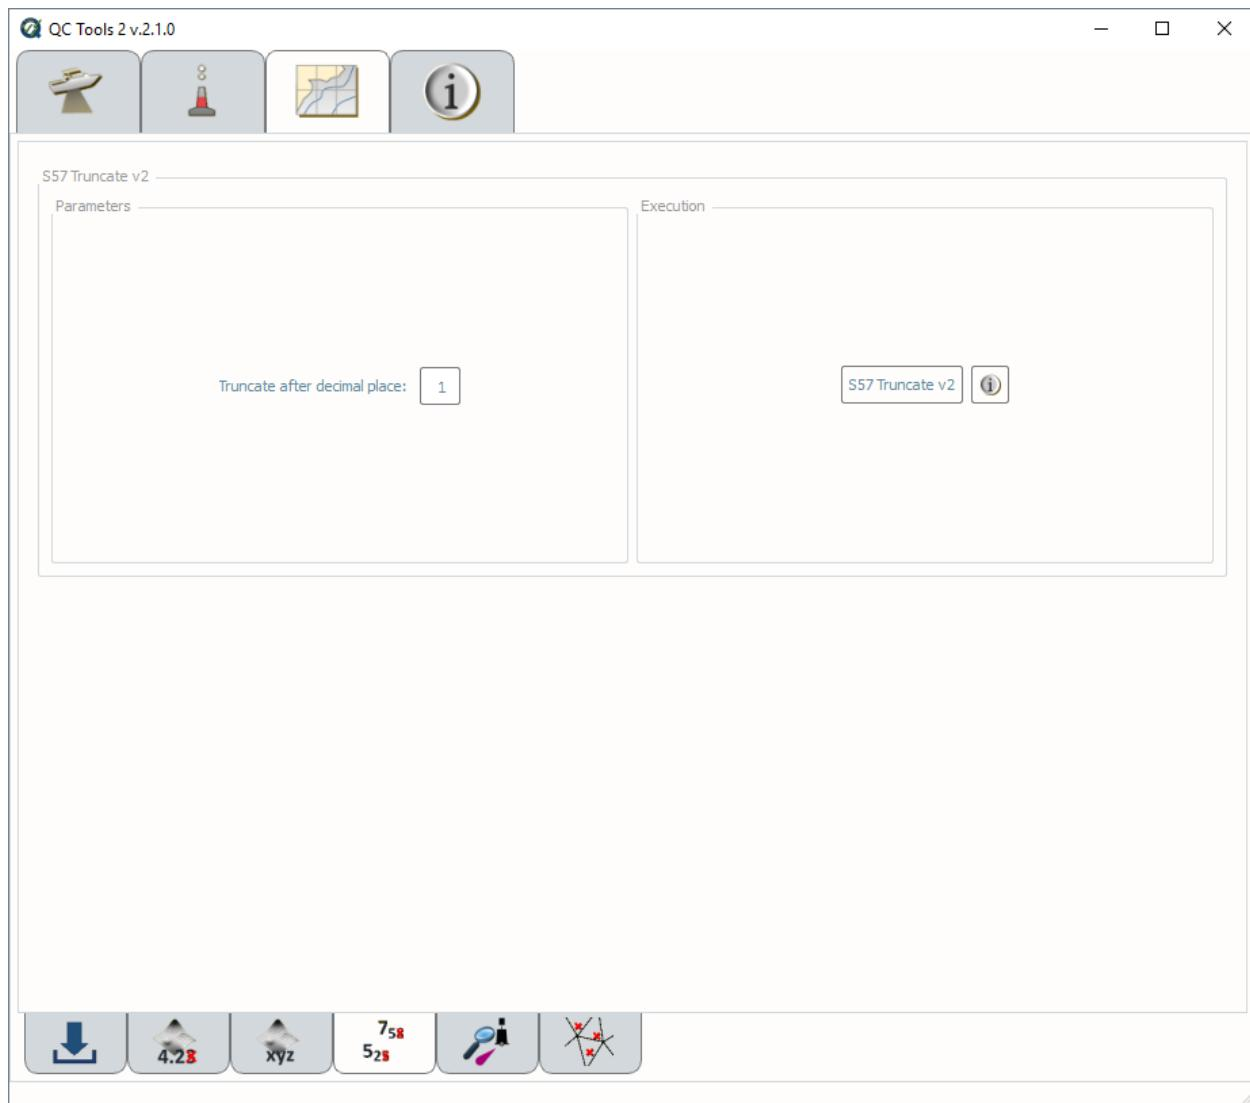

Fig. 2.66: S57 Truncate.
- In **Execution** (Fig. 2.66), click **S57 Truncate v2**.